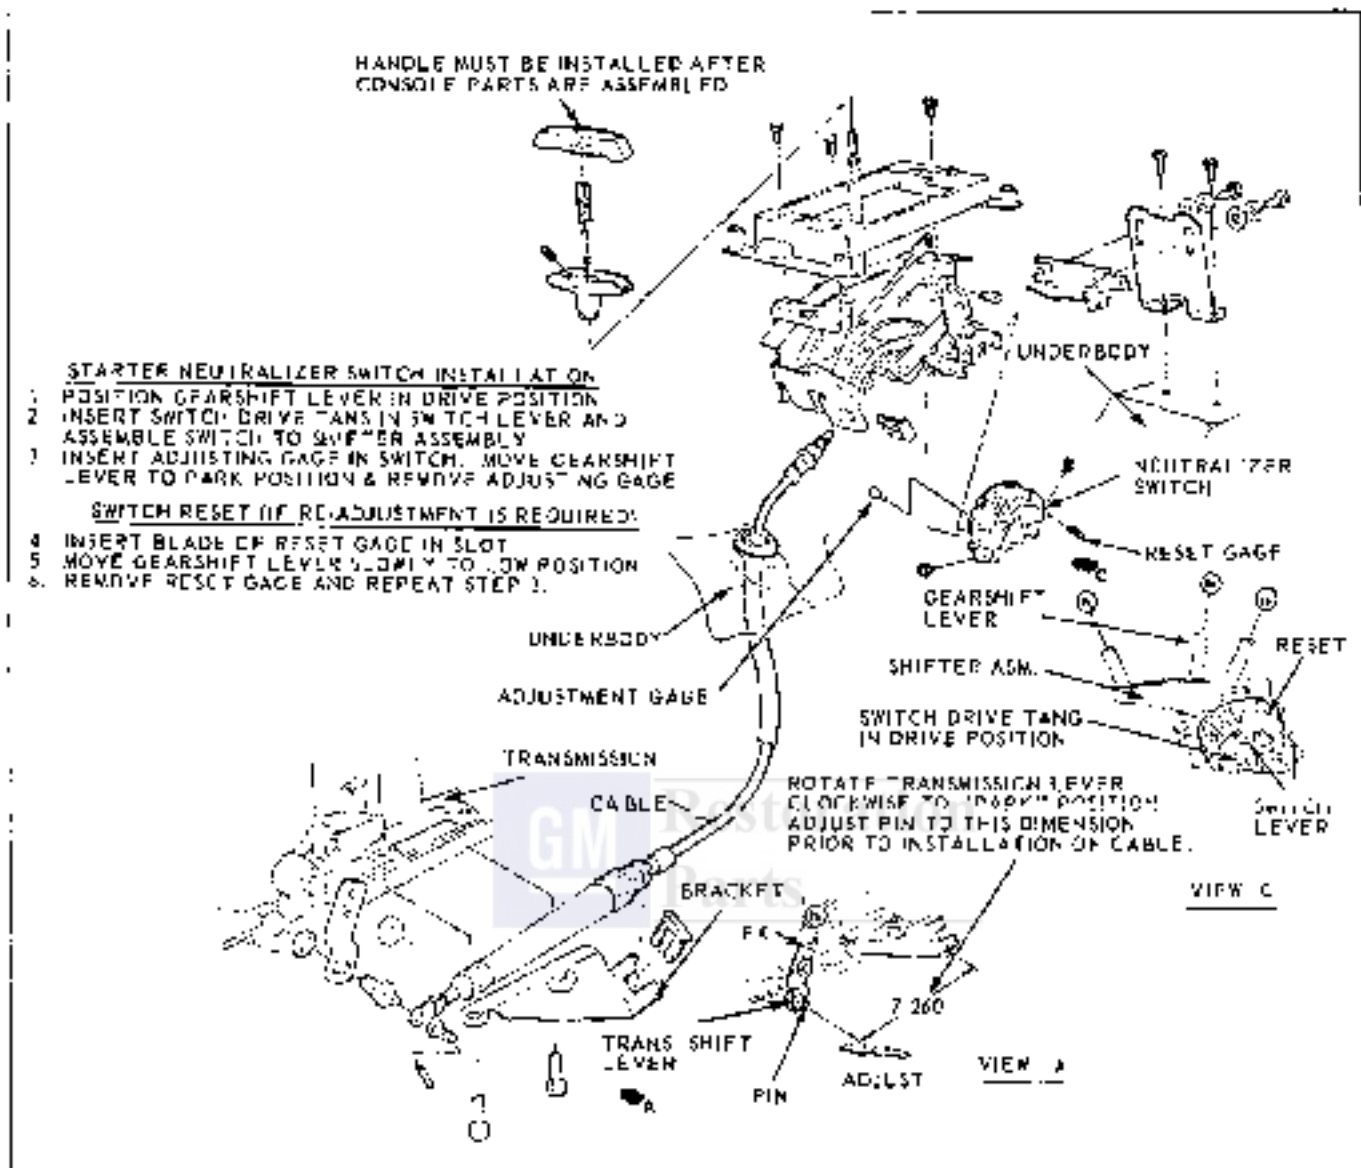

Fig. 7F-3 Temper Floor Shift Linkage
2. Pry out old seal (Fig. 7F-7).
3. Coat outer casing of new oil seal with gasket sealing compound and drive it into place with installer J 5:54 (Fig. 7F-8).
4. If necessary, replace speedometer drive gear. Remove by depressing clip (Fig. 7F-27). Install new gear.